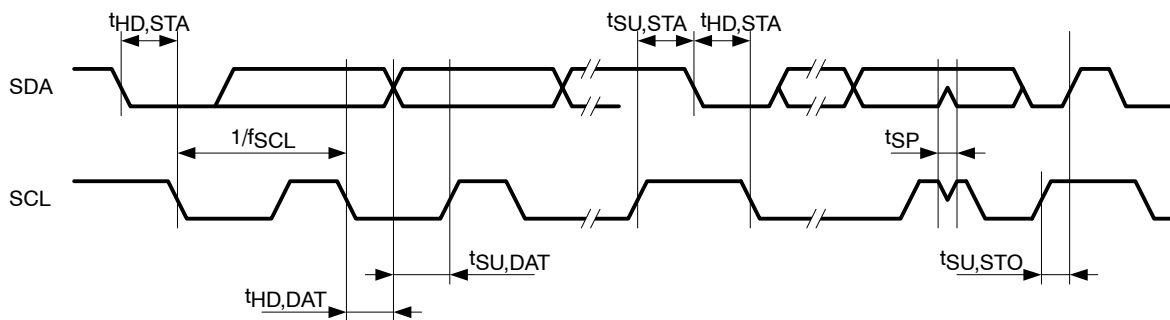

**Figure 35. I2C Mode Timing**
**USCI (I2C mode) (see Figure 35)**